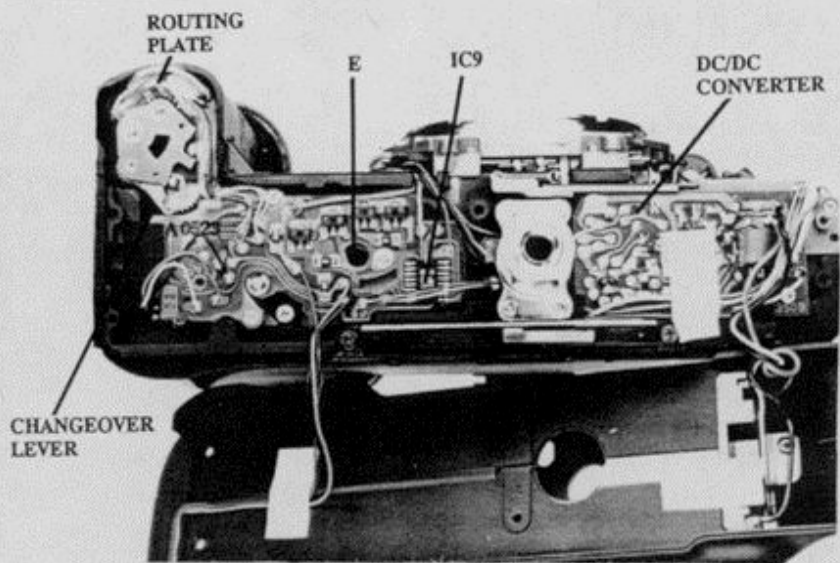
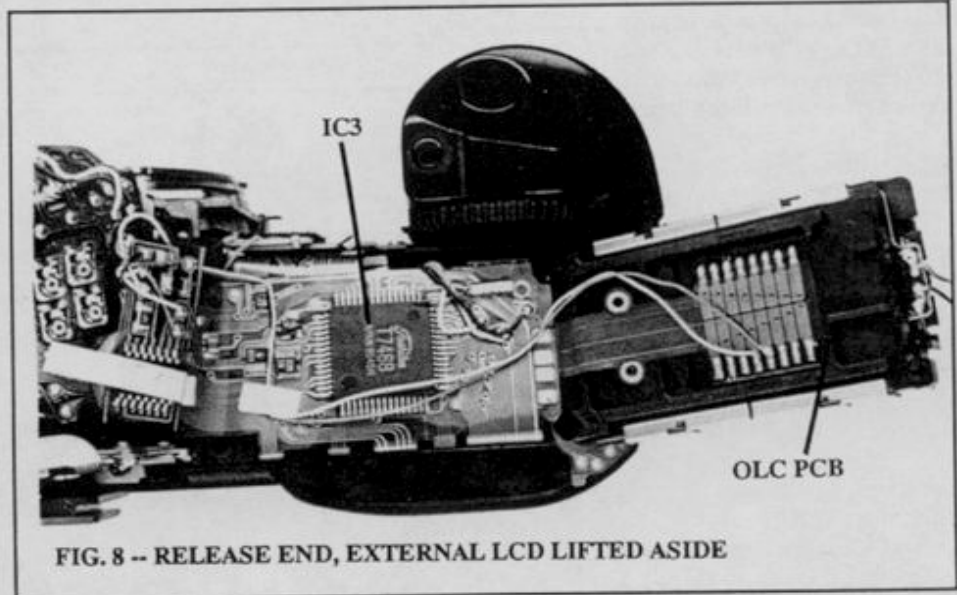

FIG. 3 -- BOTTOM VIEW, BATTERY CASE LIFTED ASIDE
FIG. 8 -- RELEASE END, EXTERNAL LCD LIFTED ASIDE
- Fig. 3 -- bottom view, battery case lifted aside
Adjust both curtains by turning the worms (clockwise to increase tension). Reach the 1st-curtain worm through the access hole at the bottom of the camera (E in Fig. 3). To reach the 2nd-curtain worm, lift aside the LCD and the upper section of the main flex, Fig. 8. Fig. 9